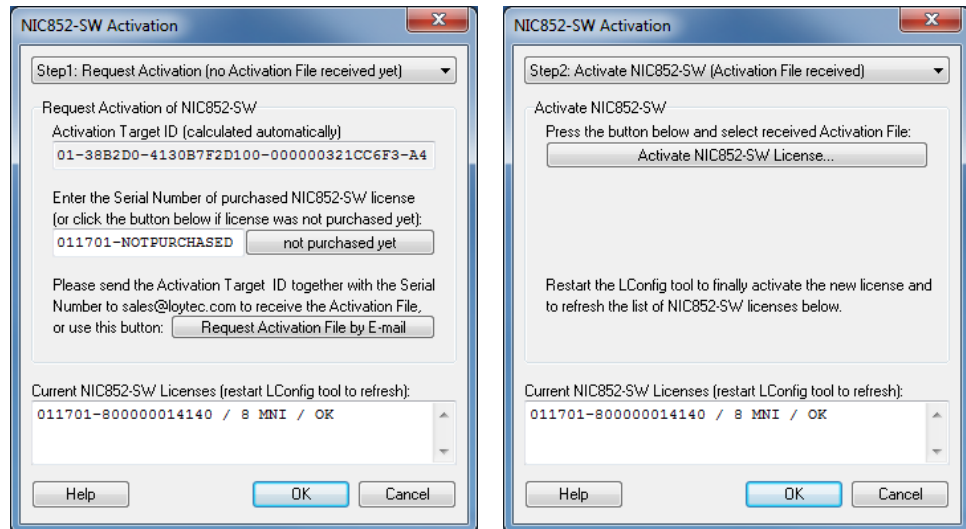

Figure 35: NIC852-SW Activation
- Start the LConfig Tool and click on 'Activate NIC852-SW'. The dialog as shown on the left side of Figure 35 will open. At the top of the dialog, 'Step1...' must be chosen.
- After you have received the LOYTEC Activation file from LOYTEC, please open the dialog again and now choose 'Step2...' at the top, as shown on the right side of Figure 35.